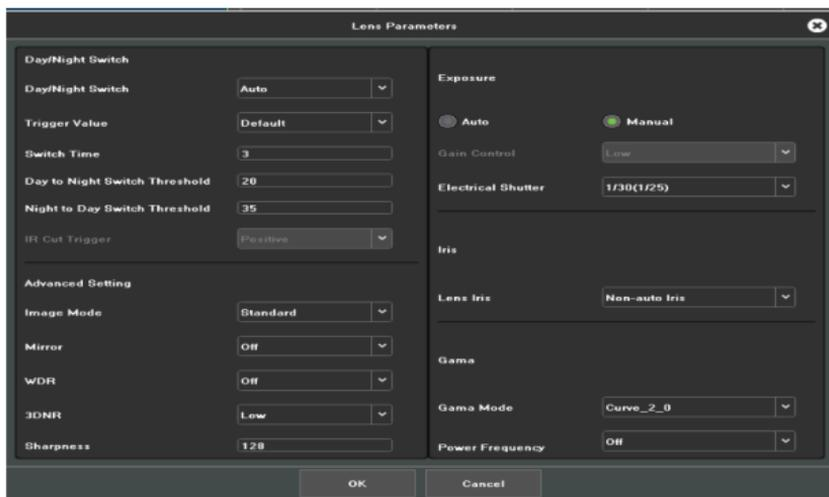

Figure 7.6 Interface of Camera Lens Parameters Settings
- lens parameters: set parameters for the channel camera lens, as shown in Figure 7.6.